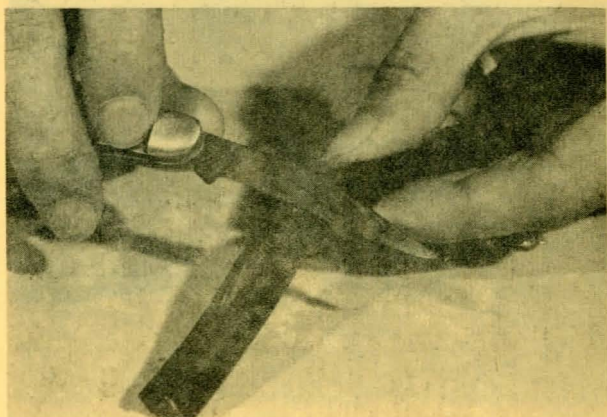

Figure 4
3. Using a sharp knife, carefully remove the insulation that surrounds the wires inside. Use a slanting cut on the outside insulation (Fig. 4).